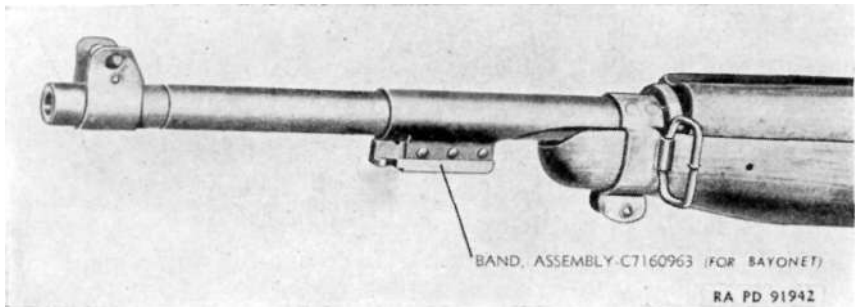

Figure 9. Front band assembly for bayonet.
(5) *Front band (narrow and wide type).* The front band should be lying securely behind shoulder of locking spring when screw is drawn down snugly and locking spring engaged positively. If spring will not depress, inspect for foreign matter in seating recess in stock. If spring does not engage positively with front band, check for bent spring or worn or burred locking shoulder (fig. 9), or excessive wood on stock or hand guard. (See par. 56*c*.)